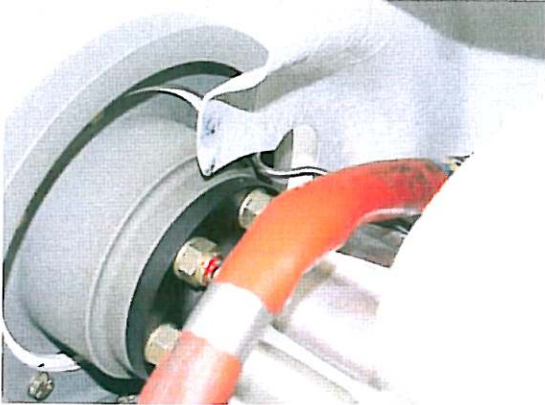

Figure 6
10. *Make sure that the de-icing nozzle is located in the middle of the cut-out in Top RH Cowling, by attaching the Bottom Cowling and the Top RH Cowling provisionally. See Figure 6.*